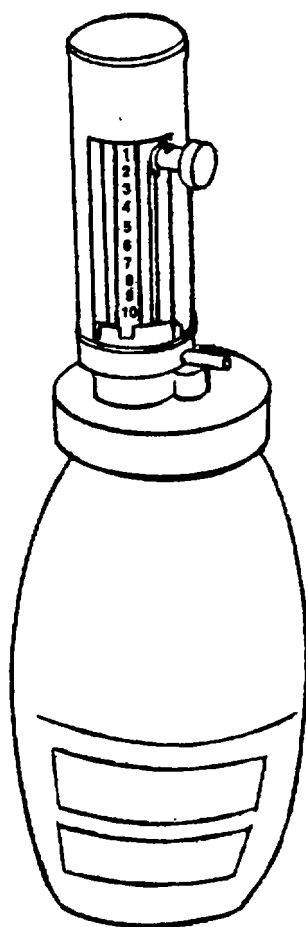

Figure 1-22. Laboratory Reagent Dispenser
n. *Laboratory Reagent Dispenser (Figure 1-22).* The Laboratory Reagent Dispenser is a precision dispenser for almost all laboratory reagents, except HF. Very strong oxidizing acids, such as nitric acid and organic solvents at high concentrations, may cause some warping of the fluorocarbon, which could adversely affect the performance of the instrument. The fumes from organic solvents (such as toluene) may attack the magnifying indicator. Only glass and fluorocarbons contact the reagents.